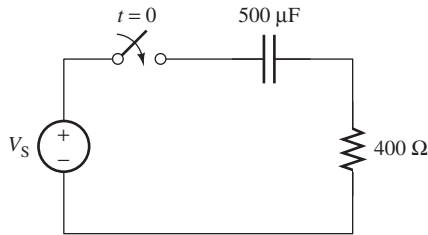

FIGURE P5.52 Circuit for Problem 5.52.
- 5.52 (A) The switch closes at $t = 0$ s. Find the expression of current flow for the circuit shown in Figure P5.52, if the voltage source is $v_S(t) = 10 \cos(20t)$.